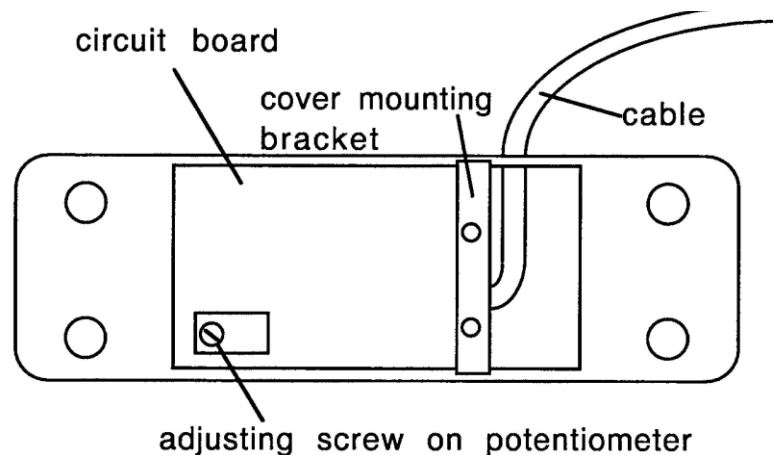

Figure 3-14. Potentiometer Adjustment Screw on Strain Links without Access Hole in Cover
8. If the potentiometer adjustment screw on the strain link is not accessible via a hole in the cover, loosen the two screws securing the cover, and remove it. The adjustment screw is located on the strain link circuit board, as shown in Figure 3-14.